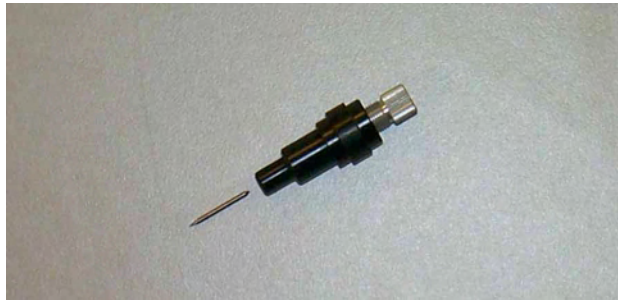

FIGURE 1-20
3. Extend the tip of the blade the distance required for exact cutting depth into the vinyl media, as shown in Figure 1-20. The blade should only extend beyond the knife holder's tip, sufficient only to completely cut through the film and adhesive layers, yet avoiding penetration of the polyester liner (backing) material. Cutting deeply into the backing will damage the blade, and cutting through the backing will damage the cutting strip.